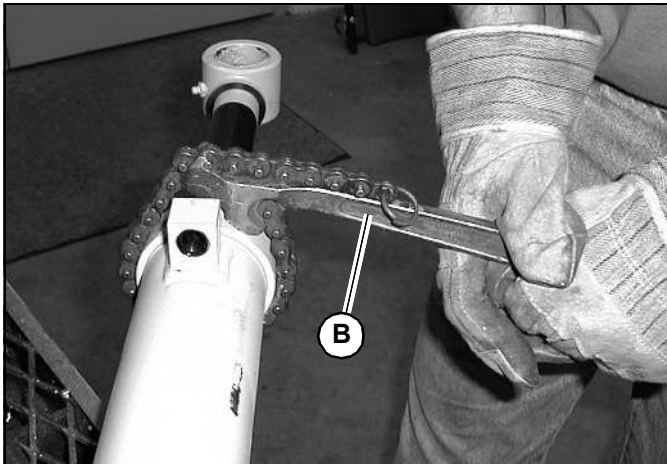

Fig. 172 – Collar Removal
4. Use a chain clamp (B, Fig. 172) to remove the collar from the cylinder tube.